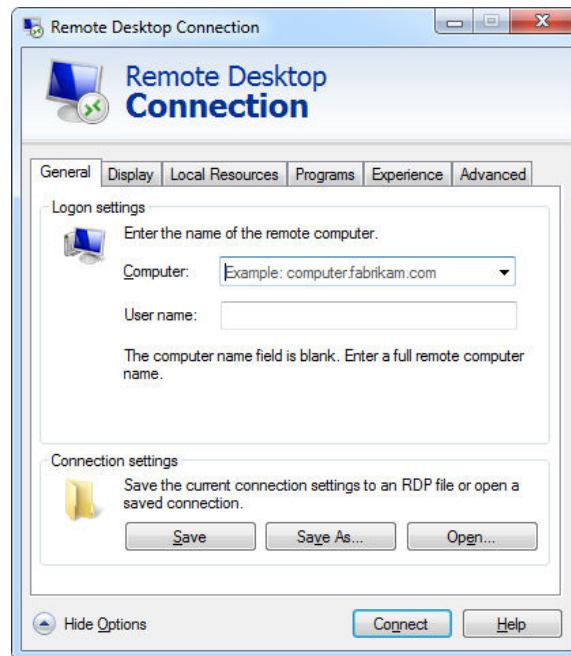

Figure 113. Remote Desktop Connection - General
12. Click **General**. The General window appears (Figure 113).